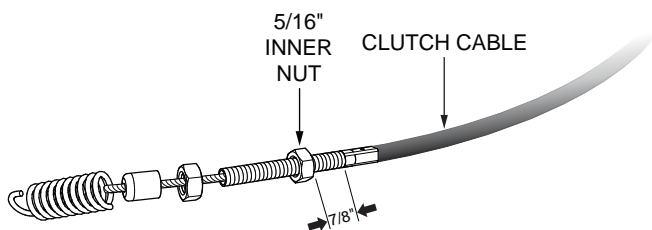

Figure 17. Inner Nut Adjustment
- Adjust the 5/16" inner nut (Figure 17) until there is a distance of 7/8 inch from the threaded end of the clutch cable to the inner nut.